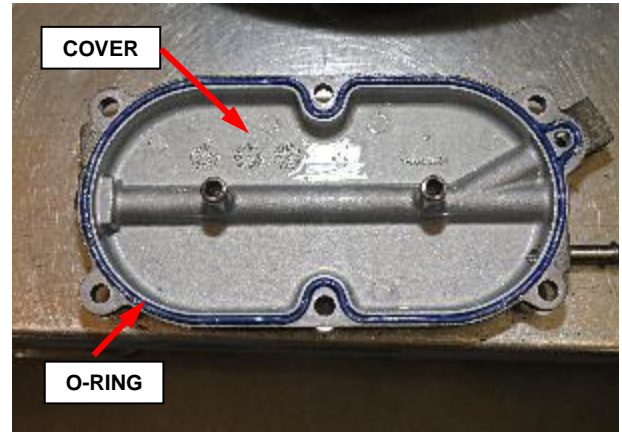

Figure 30 – Cover O-ring
65. Remove and discard the old cover O-ring. Lubricate the **NEW** seal with clean diesel and install it into the channel in the cover (Figure 30).